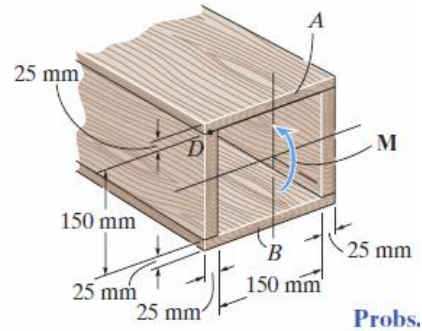

Fig. 5
5. Determine the moment  $M$  that should be applied to the beam in order to create a compressive stress at point D of  $\sigma_D = 30 \text{ MPa}$ . Also sketch the stress distribution acting over the cross section and compute the maximum stress developed in the beam. (Fig. 5)